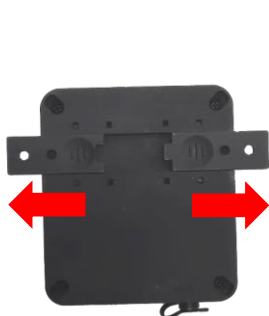

Figure 1
1. Slide out the mounting tabs on the rear of the BBU, see Figure 1.